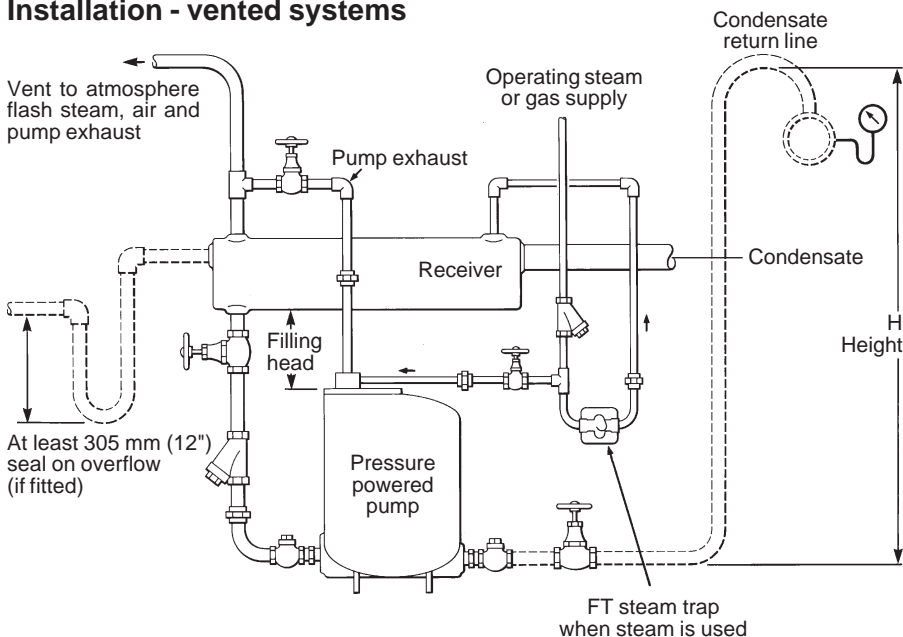

Fig. 3
1. Install the pump below the equipment to be drained with the exhaust connection (10) vertically upwards. Pump should be installed with the recommended filling head (the vertical distance between the top of the pump and the bottom of the reservoir/receiver) as shown below. For other filling head variations, see the capacity table on TI-P135-05.
2. To prevent equipment flooding during the pump discharge stroke, a vented receiver or reservoir pipe should be installed in a horizontal plane ahead of the pump as shown in Fig. 3. For proper receiver/reservoir sizing, refer to 'Inlet receiver capacities' table shown below. All inlet line fittings must be fully parted.
3. Connect the check valves (8) and (9) to the pump making sure that the flow through the valves is in the proper direction. For best performance, horizontal piping runs immediately ahead of the inlet check valve and after the discharge check valve should be kept to a minimum. Connect the discharge to the return main or other installation point.
Sufficient reservoir volume is needed above the filling head level to accept the condensate reaching pump during the discharge stroke. The receiver can be a length of pipe of large diameter or a tank. If desired, receiver overflow piping can be installed as shown in Fig. 3 and piped to a suitable drain. The piping must form a U-type water seal at least 305 mm (12") deep immediately after the receiver.